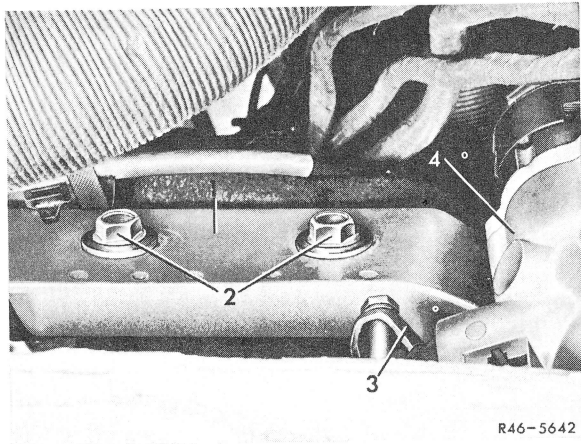

Fig. 3
7 Unscrew both locking screws (2) for attaching jacket tube to cross member (1) (Fig. 3).